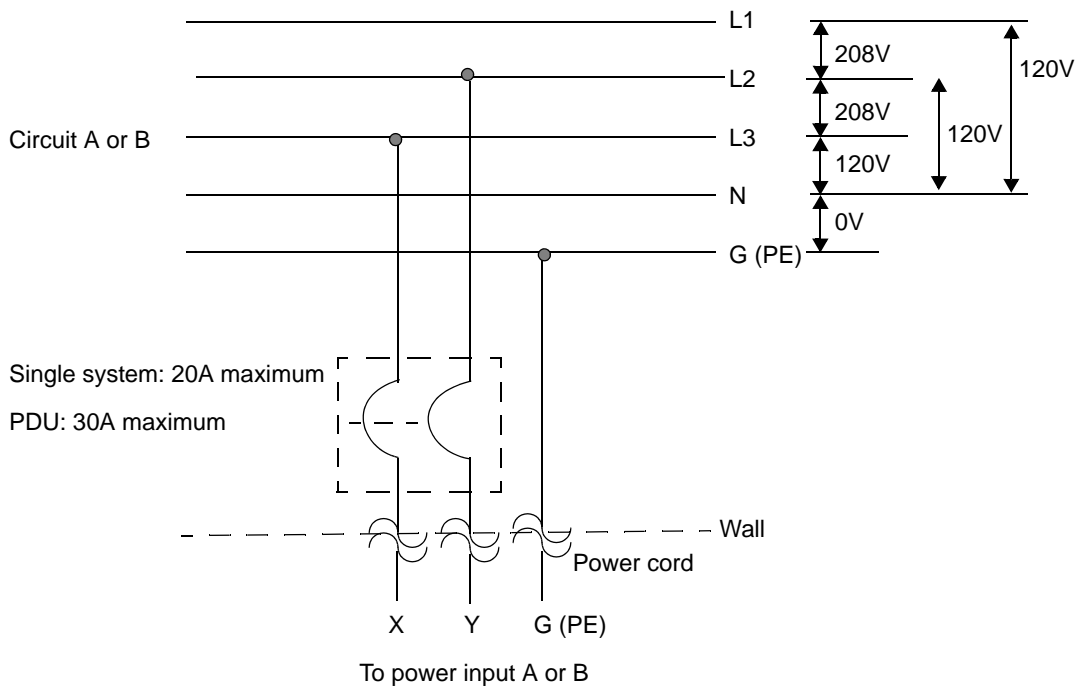

Figure B-6. Three-Phase 208-VAC, Y-, or Δ -Source Circuit Connection, Phase-to-Phase
- Figure B-6 illustrates a three-phase 208-VAC, Y-, or Δ -source circuit connection, phase-to-phase.
Figure B-6 illustrates a three-phase 208-VAC, Y-, or Δ -source circuit connection, which is a phase-to-phase source connection. Note that the ftServer system X and Y inputs can be connected from L1 and L2, L2 and L3, or L1 and L3. This application requires a double-pole circuit breaker.